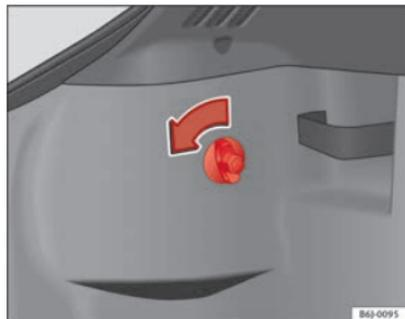

Fig. 161 Access to tail lights
- Turn the bolt in the direction of the arrow, by hand or with a screwdriver ⇒ fig. 161.
- Remove the connector from housing (A) ⇒ fig. 161.